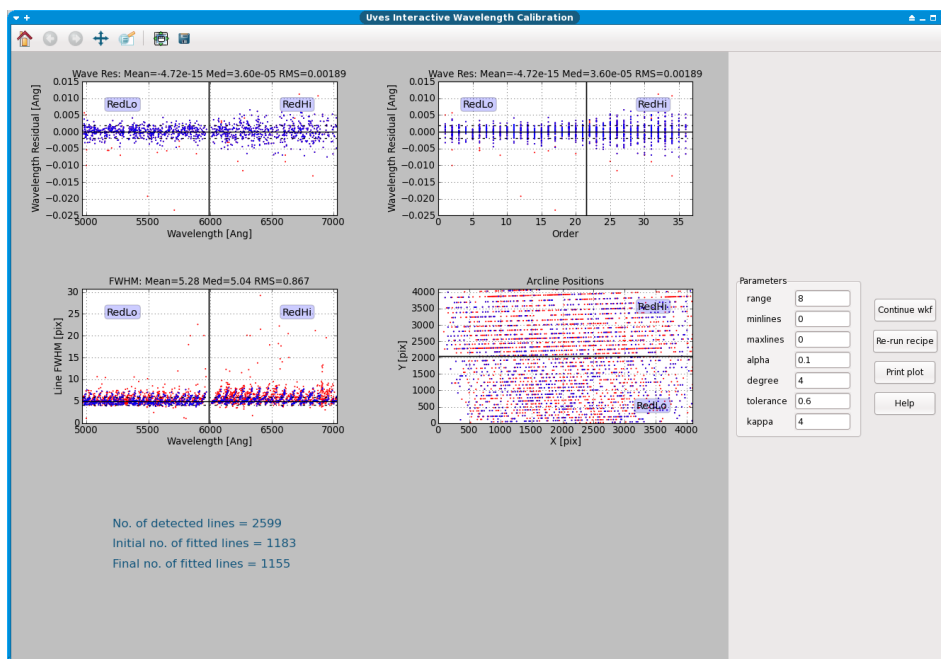

Figure 6.0.4: *The interactive window for the Wavelength Calibration actor for the first LoSO in the data supplied with Reflex 1.1.*
10. **Wavelength Calibration:** The next interactive window that will appear (see Figure 6.0.4) is associated with the execution of the `Wavelength Calibration` actor, which executes the UVES pipeline recipe `uves_cal_wavecal`. This pipeline recipe determines the wavelength calibration solution from an appropriate arc-lamp frame and a line reference catalogue. The top two plots in the interactive window show the wavelength calibration residuals for arc lines that were identified in the input line reference catalogue as a function of wavelength and spectral order. Blue points represent arc lines that were used in the final solution, and red points represent arc lines that were excluded from the final solution. The bottom-left plot shows the arc line FWHM as a function of wavelength, and the bottom-right plot displays the positions of all detected arc lines on the detector.